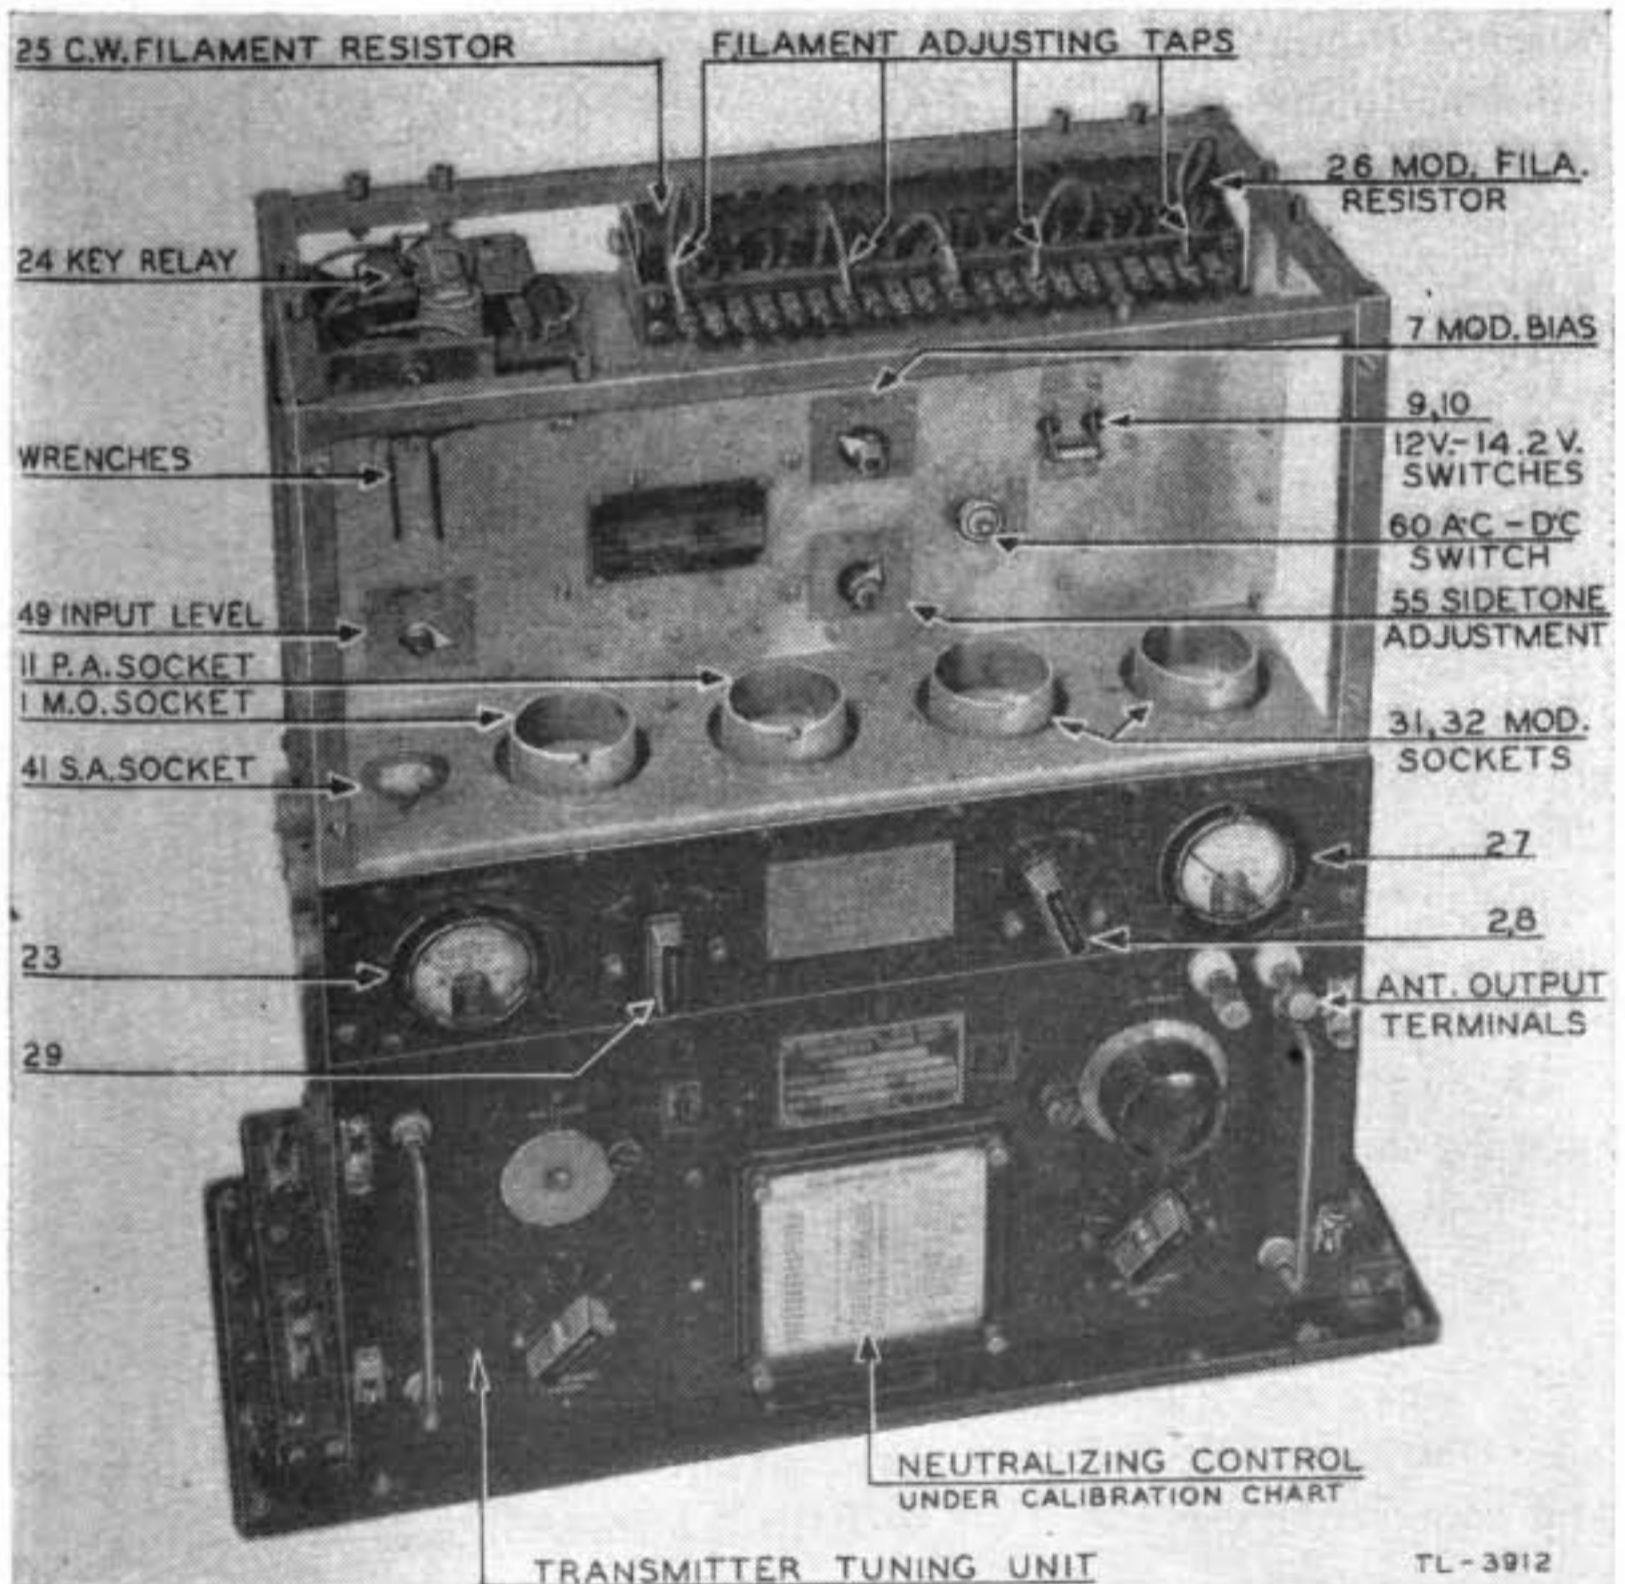
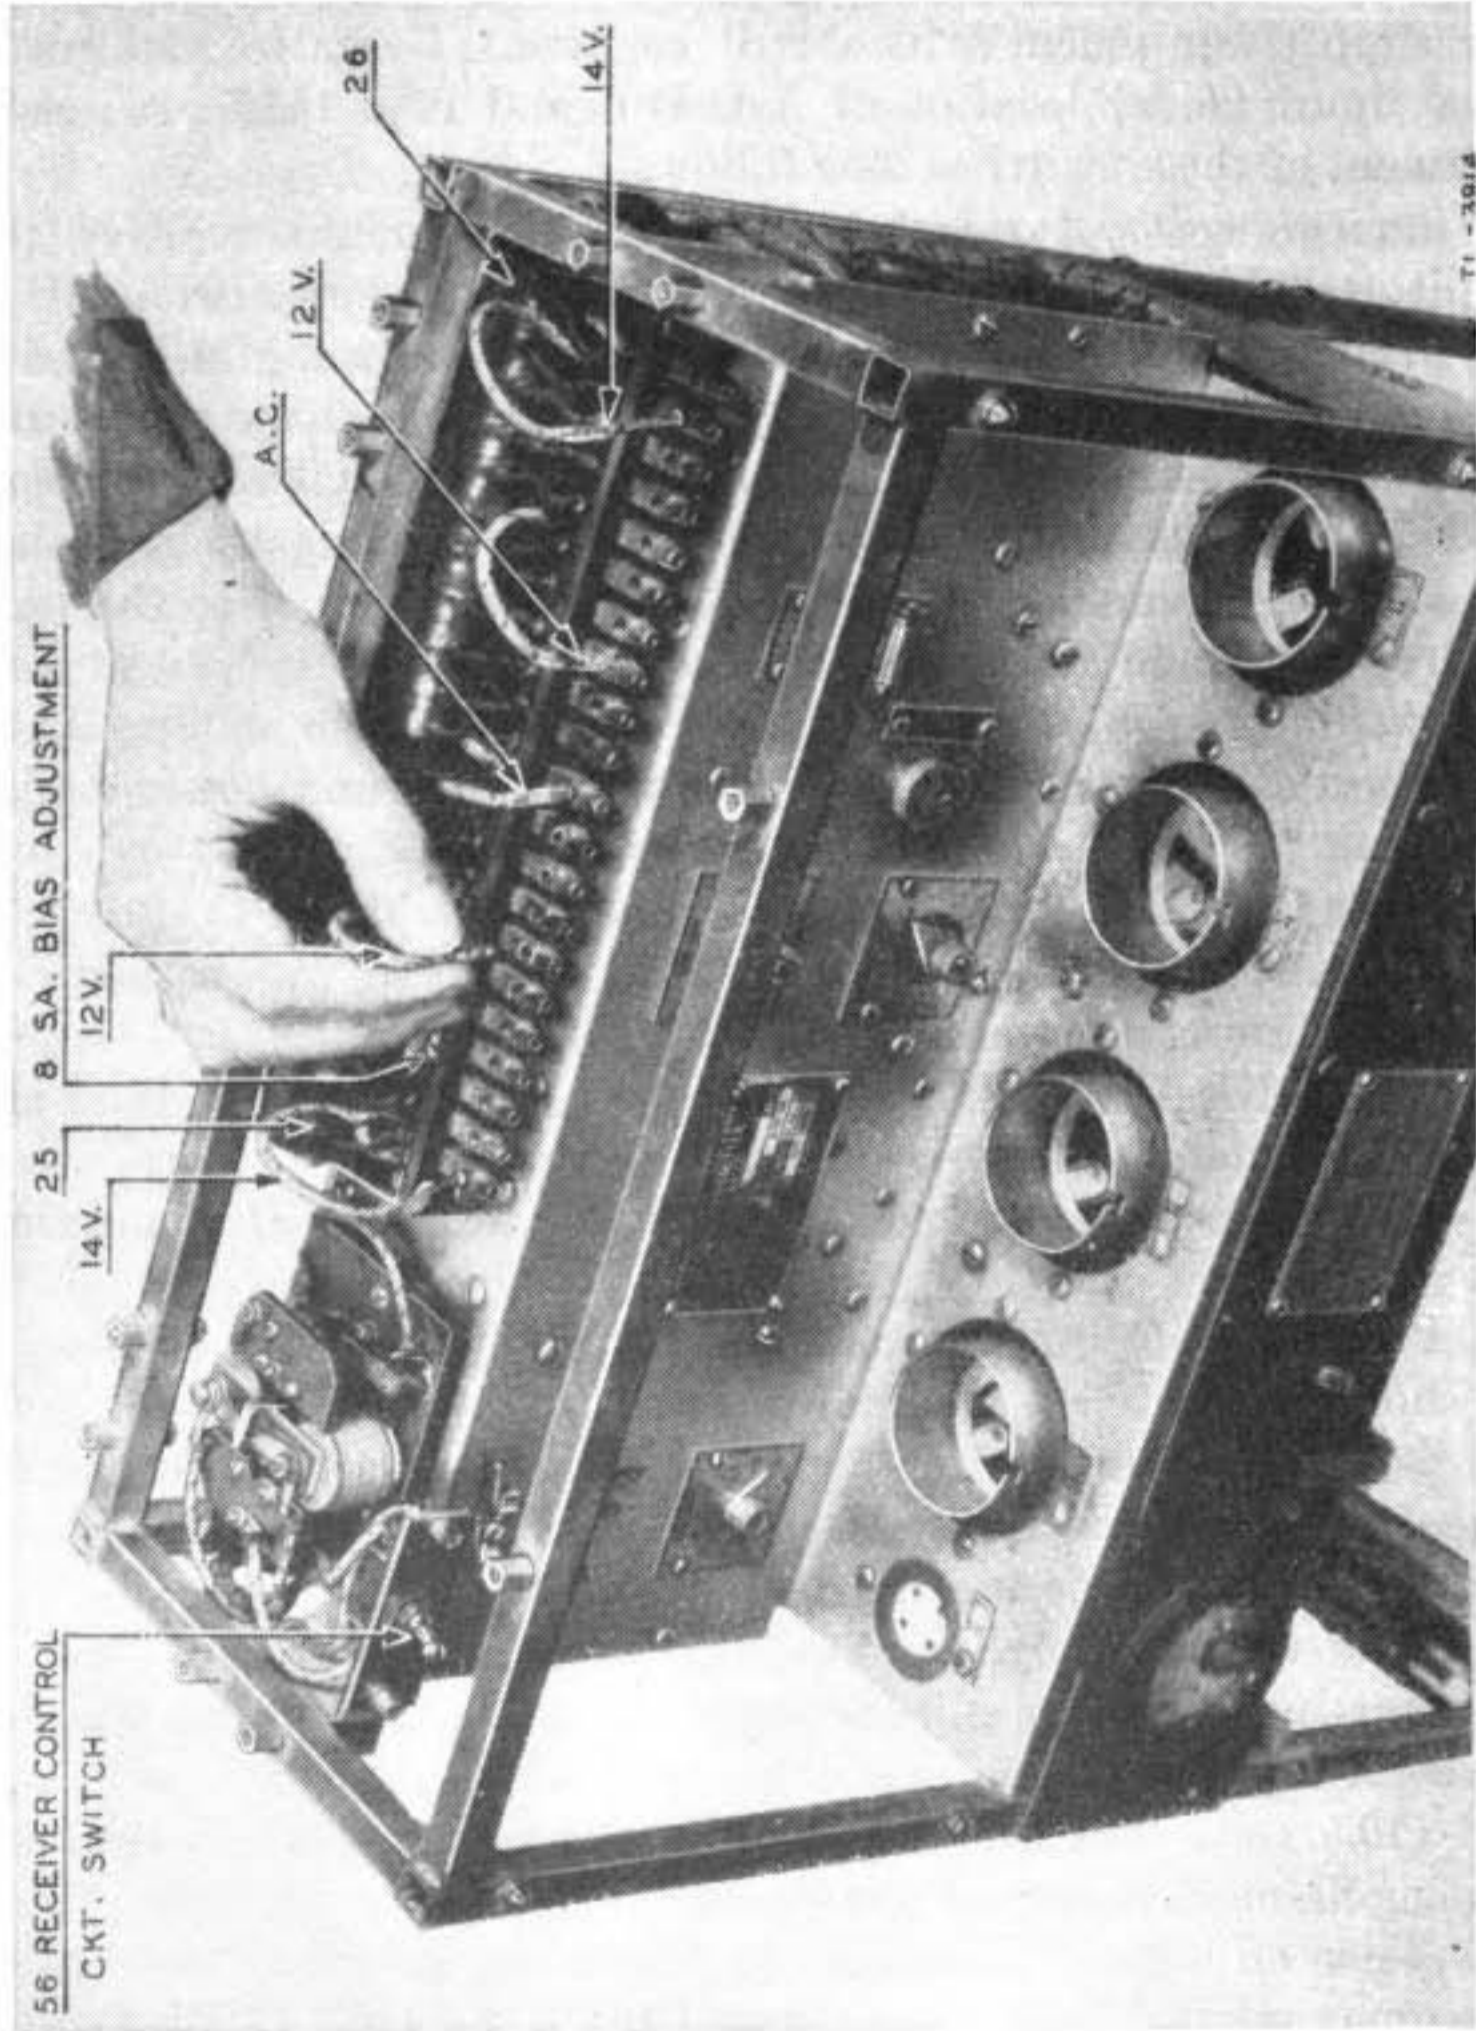

FIGURE 26.—Radio transmitter BC-AA-191 with panels removed showing location of main controls—front view.
FIGURE 29.—Inserting filament adjusting tap in terminal on filament resistor connection board. (Location of S. A. BIAS adjustment is also shown.)
44. **Major components.**—Radio transmitter BC-AA-191 comprises the transmitter, two small setscrew wrenches, junction box TM-AA-160 and mounting FT-115 (see figs. 26 and 28). Auxiliary transmitter tuning units TU-AA-3 to TU-AA-10, antenna tuning units BC-AA-193 or BC-BB-193, BC-AA-194 and BC-AA-204, antenna switching relay BC-AA-196 or BC-CC-196, and radio control box BC-AA-192 are supplied only as component parts of each radio set in which the transmitter is used.
(2) Located on the back wall of the tube compartment are the **INPUT LEVEL** control (back of the VT-25 at the left end), the **MOD. BIAS** control (at right center), the **SIDE TONE** switch (just beneath the **MOD. BIAS** control), the **12V. 14.2V.** switch (at the right, behind tubes four and five), and the **A-C D-C** switch (just beneath and to the left of the **12V. 14.2V.** switch). At the upper left of the tube compartment is the receiver control circuit toggle switch 56, marked **POSITION NO. 1** and **POSITION NO. 2**. (See fig. 26.) This switch, through cording connections with associated receiving equipment in a radio set, determines the circuit control exercised on the receiver by the transmitter keying relay.
(3) On the top of the transmitter, accessible by removal of the top plate, is the **S. A. BIAS** adjustment. This is a potentiometer shaft located between the filament resistor and the filament resistor terminal board, at the left end of the board. The shaft is slotted for a screw driver. (See figs. 29 and 34.)
(4) These controls have the same purpose as those on the **BC-191-(*)** transmitter (par. 12a).
53. Adjustments prior to operation.—Determine the type of power supply equipment which will be used. Refer to paragraph 12*a* and figure 26 for location of A-C D-C and 12V. 14.2V. switches. Adjustment of these switches is as follows:
a. Filament voltage adjustment.—At the top right rear of the transmitter tube compartment is the filament resistor connection board. There are five tap wires, each with a small plug at one end. The plugs can be inserted vertically in the terminals of the connection board. Spring action holds them in place when inserted. (See figs. 26 and 29.) Adjustment of filament voltage is made by inserting the taps in the terminals, proceeding from one terminal to the next until proper voltage adjustment is secured.
(1) Connect all power cording between transmitter and power equipment *except the high-voltage cord to socket PL-59.*
(2) Place A-C D-C switch in tube compartment at D-C.
(3) Place 12V. 14.2V. switch on 14.2V. (Have the battery on charge by running the vehicle engine.)
(4) Set TONE C. W. VOICE switch on VOICE and C. W. FIL. MOD. FIL. switch to MOD. FIL.
(5) Insert tap plug marked AC in center terminal of connection board.
(6) Place OFF ON switch on radio control box at ON. The voltmeter should indicate the modulator filament voltage.
(7) Starting at the right end and working to the left, adjust right end tap (marked 14) of the modulator filament resistor terminal board until the voltmeter indicates approximately 10.5 volts.
(8) Place voltmeter switch to C. W. FIL.
(9) Starting at the left end and working to the right, adjust the left end resistor tap, stamped 14, until the meter reads approximately 10.5 volts. (10.5 volts will drop to 10 volts when plate load is applied. Operating filament voltage is 10 volts.)
ance voltmeter such as the one supplied with test set I-56 or I-56-A and connect the positive voltmeter lead to the chassis frame. Touch negative lead test prod to the proper terminal of capacitor 53 (only one of the terminals will give a voltage reading). Insert an insulated screw driver in the slotted S. A. BIAS control shaft (see fig. 29) and adjust for a voltmeter reading of 35 to 40 volts. If two persons are present, have one depress the key and make the adjustment while the other handles the voltmeter. *Be careful!*